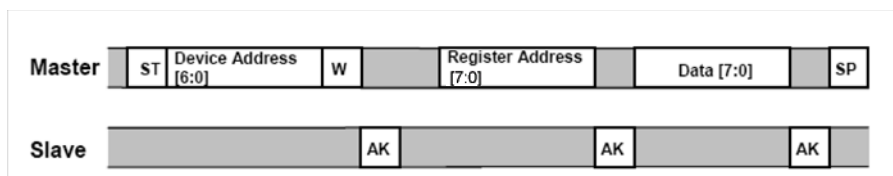

Figure 9. Single Byte Write - The Master (MCU) is writing to a single register of the MMA7455L
To start a write command, the Master transmits a start condition (ST) to the MMA7455L, slave address (\$1D) with the R/W bit set to "0" for a write, the MMA7455L sends an acknowledgement. Then the Master (MCU) transmits the 8-bit address of the register to write to, and the MMA7455L sends an acknowledgement. Then the Master (or MCU) transmits the 8-bit data to write to the designated register and the MMA7455L sends an acknowledgement that it has received the data. Since this transmission is complete, the Master transmits a stop condition (SP) to the data transfer. The data sent to the MMA7455L is now stored in the appropriate register. See Figure 9.